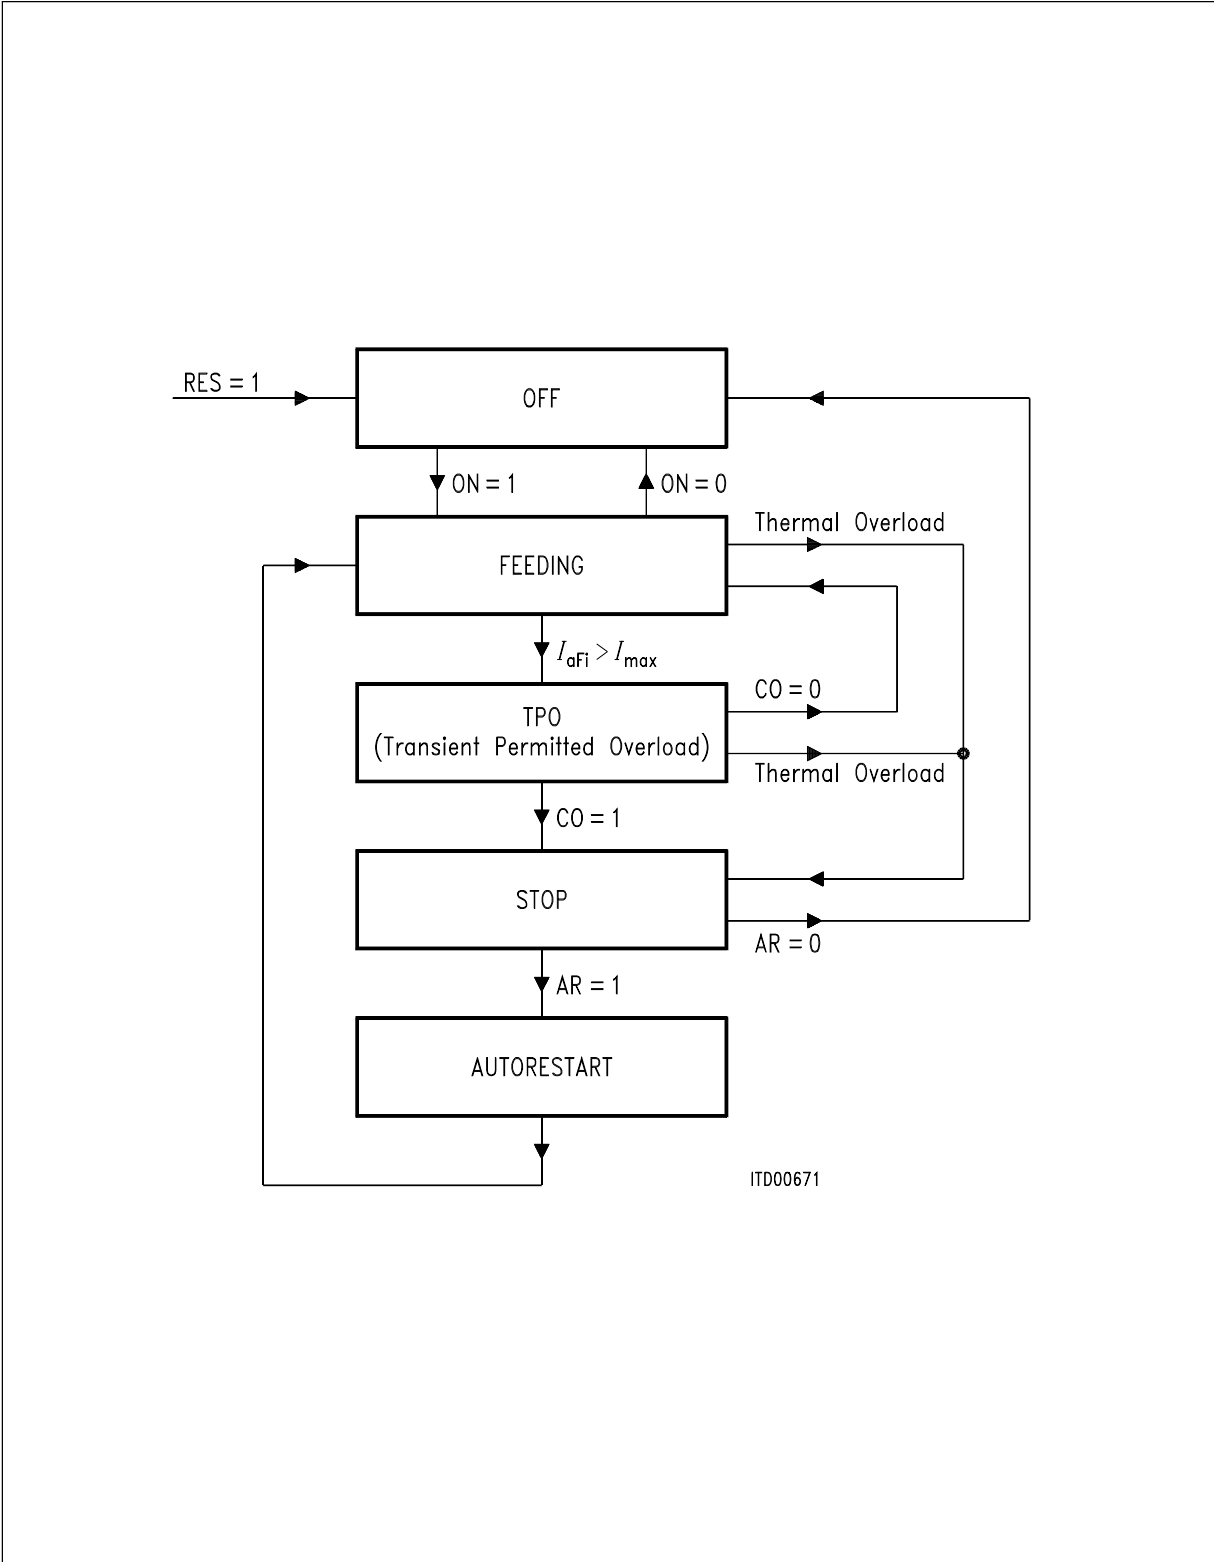

Figure 6
**Figure 6** shows the state diagram of one IEPC line driver.